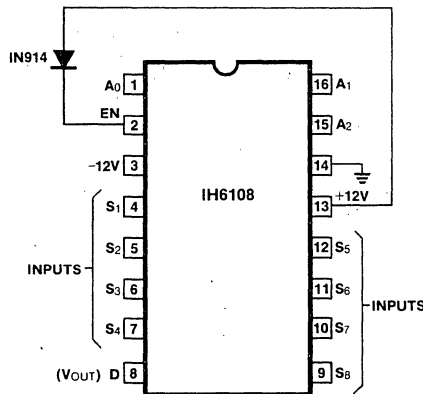

Figure 6. IH6108 Connection Diagram for less than $\pm 15V$ Supply Operation.
Caution must be taken to ensure that the enable (EN) voltage is at least 0.7V below V^+ at all times. If this is not done the binary input strobing levels will not function properly. This may be achieved quite simply by connecting EN (pin 2) to V^+ (pin 13) via a silicon diode as shown in Figure 6. When using this type of configuration, a further requirement must be met - the strobe levels at A0 and A1 must be within 2.5V of the EN
voltage in order to define a binary "1" state. For the case shown in Figure 6 the EN voltage is 11.3V which means that logic high at A0 and A1 is $+8.8V$ (logic low continues to be $+0.8V$). In this configuration the IH6108 cannot be driven by TTL (+5V) or CMOS (+5V) logic. It can be driven by TTL open collector logic or CMOS logic with +12V supplies.